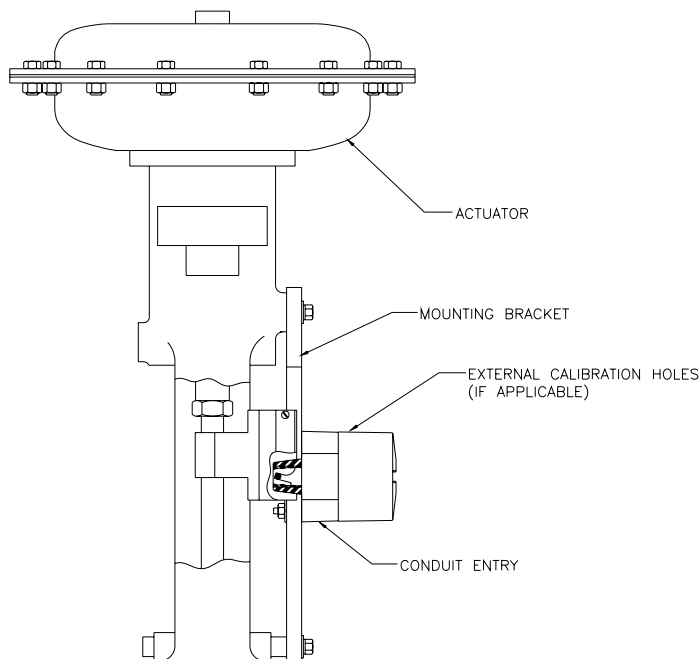

Figure 3
- 4.1.4 Lastly, mount the DEPIC to the bracket so that the conduit entry faces away from the diaphragm or cylinder (See Figure 3)